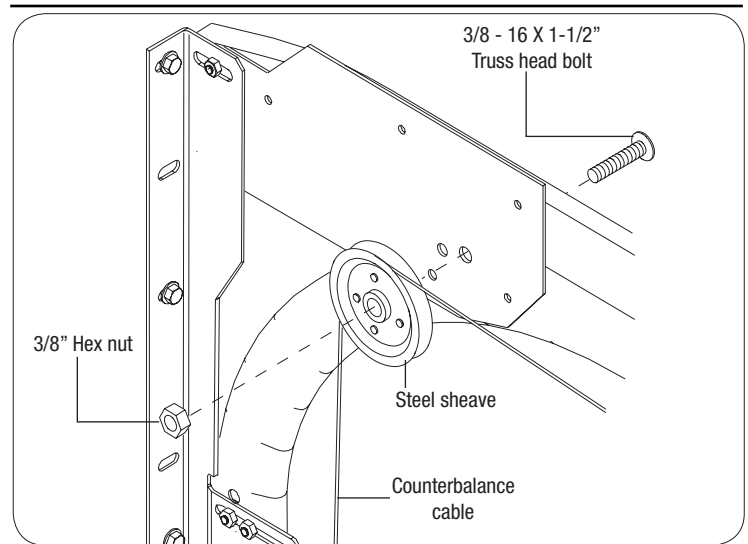

FIG. 13.1
Using the appropriate hole in the sheave plate as a guide, drill a $\frac{13}{32}$ " dia. hole through the sheave plate and track. Place a $\frac{3}{8}$ -16 x $1\frac{1}{2}$ " truss head bolt through the drilled hole and slide a steel sheave over the end of the bolt as shown. Secure the sheave using (1) $\frac{3}{8}$ " hex nut. Repeat for the other side, then loop the counterbalance cables over each sheave, as shown in FIG. 13.1.